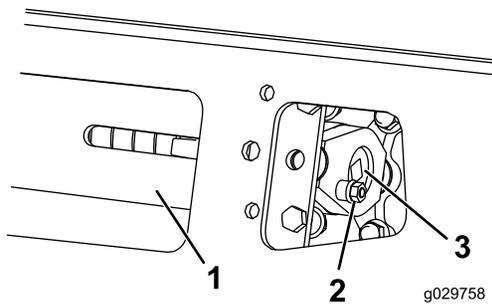

Figure 55
3. Remove the locking bolt and nut (Figure 55).
5. Align the closest notch in the tension screw to the locking-bolt hole and secure the screw with the locking bolt and nut (Figure 55).
3. Using a 1/2-inch drive socket, release the drive tension by turning the tensioning screw clockwise (Figure 55 and Figure 56).